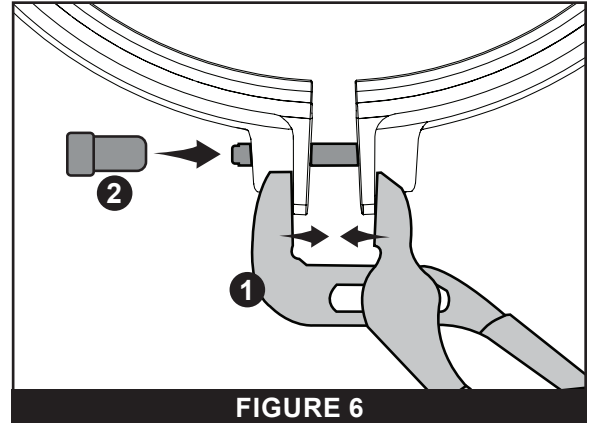

FIGURE 6
5. While compressing the clamp with a pair of *Tongue-and-Groove Pliers* (1), start the *Clamp Nut* (2) by hand. Refer to **FIGURE 6**.